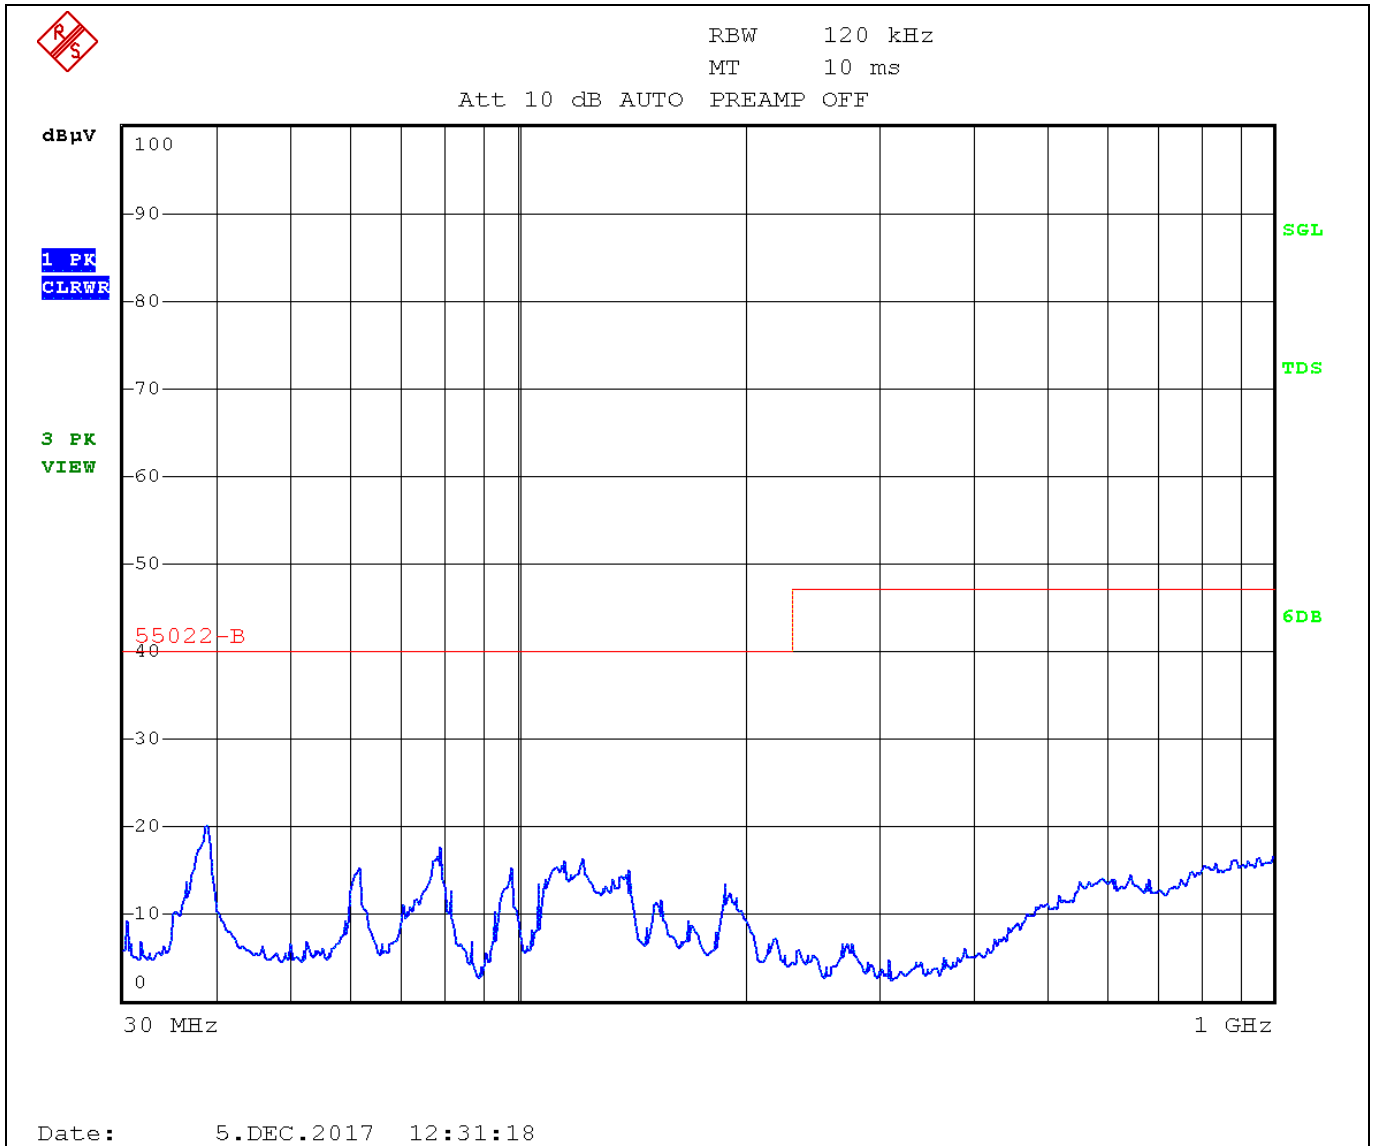

Figure 14 EMI radiated results for EVK with LC filter. Board turned 90° clockwise. Antenna position is vertical.
- Board was turned 90° clockwise and the antenna was Horizontal (Figure 14)